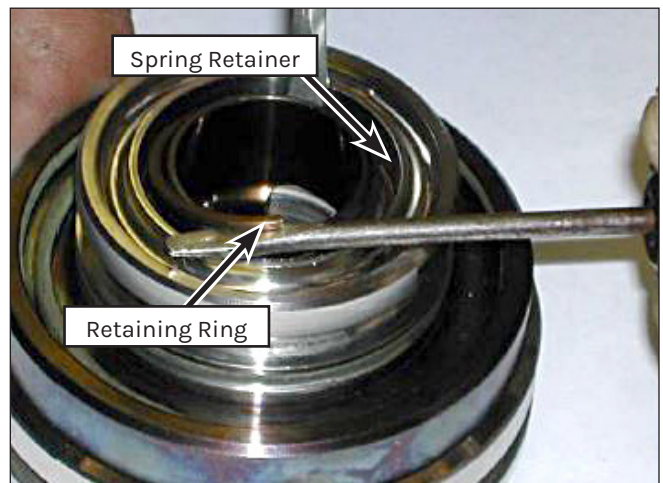

Figure 111: Removing the Retaining Ring.
3. Use a small screwdriver to depress the spring retainer. Use another screwdriver to remove the retaining ring. Insert the blade under the slit and rotate the ring out of the groove. Use caution to prevent bending or distorting the ring (Figure 111).